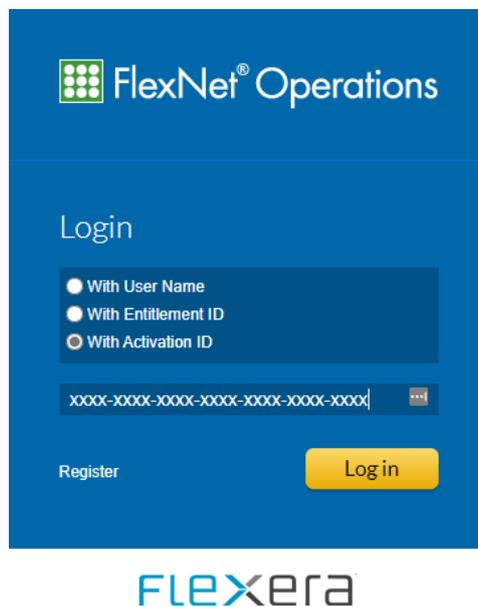

Figure 9. FNO login dialog from the website.
10. Copy and paste the *FNO* login screen address from the text file to display the Login dialog (Figure 9).